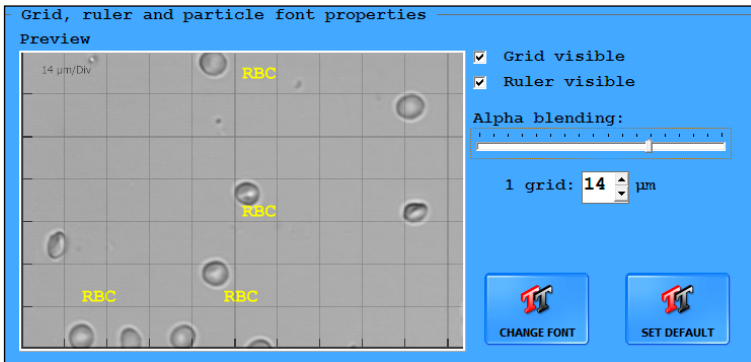

Figure 26. The Grid, ruler, and particle font properties window
4. Start the measurement cycle. When the cuvette with the sample inside it reaches the microscope, the cycle will stop, and the **Live view** screen will appear in place of the **Measure** menu (☞ Figure 26).